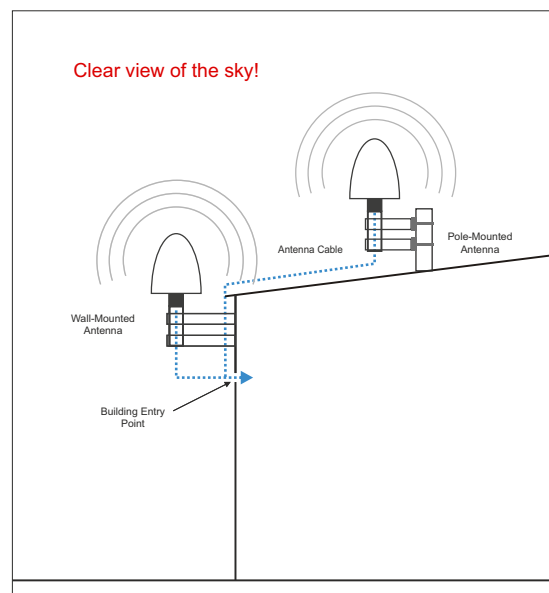

Fig. 1: Ideal Positioning
In either case, the location must be selected to ensure that the view of the sky is not obstructed in any direction (see Fig .1) in order to ensure that enough satellites can be received.
To ensure that your antenna has the best 360° view possible, Meinberg recommends mounting the antenna on a roof on a suitable metal pole (see Fig. 1, antenna illustration on right). If this is not possible, the antenna may be mounted on the wall of a building, but must be high enough above the edge of the roof (see Fig. 1, antenna illustration on left).
- Vertical installation of antenna (see Fig. 1)